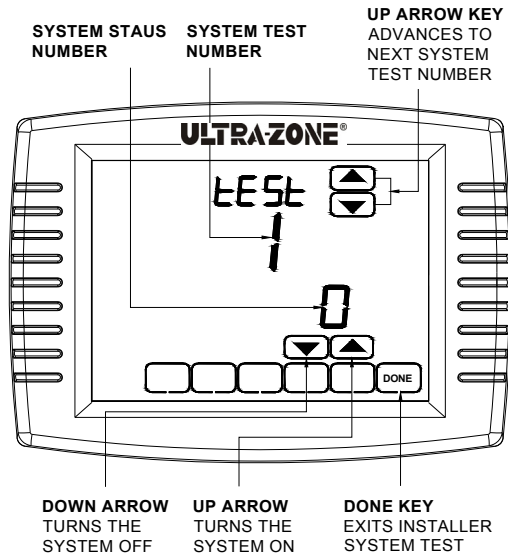

Fig. 30. Review thermostat buttons used during Installer System Test.
3. See Fig. 30 to review how the thermostat buttons are used during the Installer System Test. See table 4 (pg 61) for available Installer System Tests.